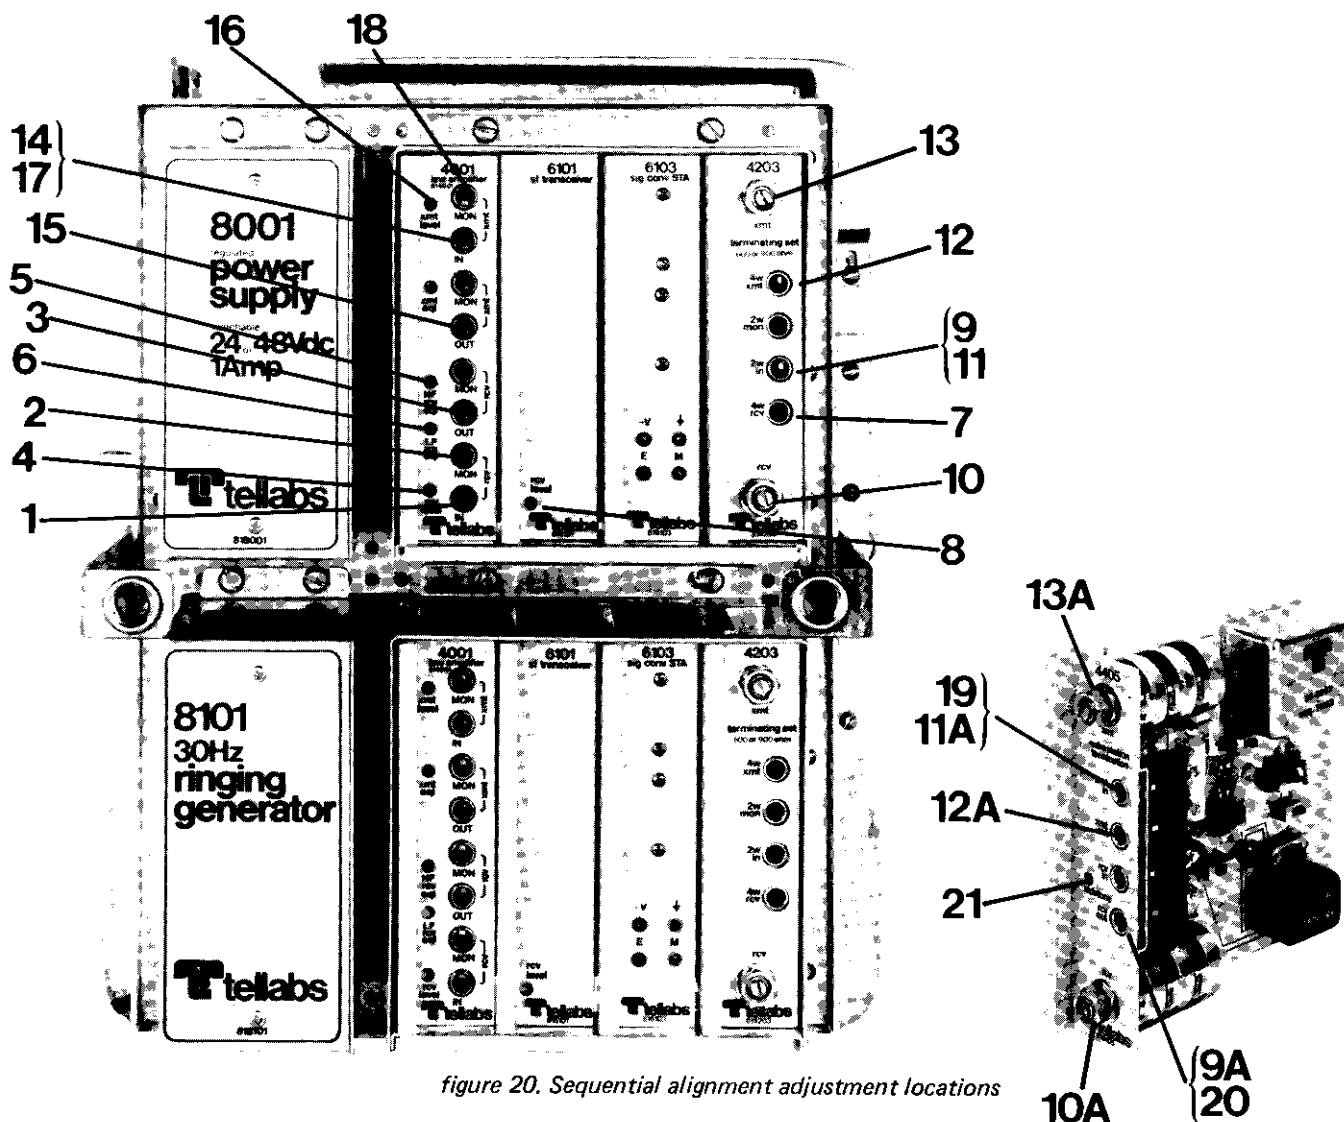

figure 20. Sequential alignment adjustment locations
3.09 Procedures for aligning the 261 System when adapted for SF or 4wire DX applications follow. To supplement these alignment procedures, a Transmission Block and Level Diagram (figure 21) is provided on page 18, and a photograph of the 261 System (figure 20) is number-keyed to the text.